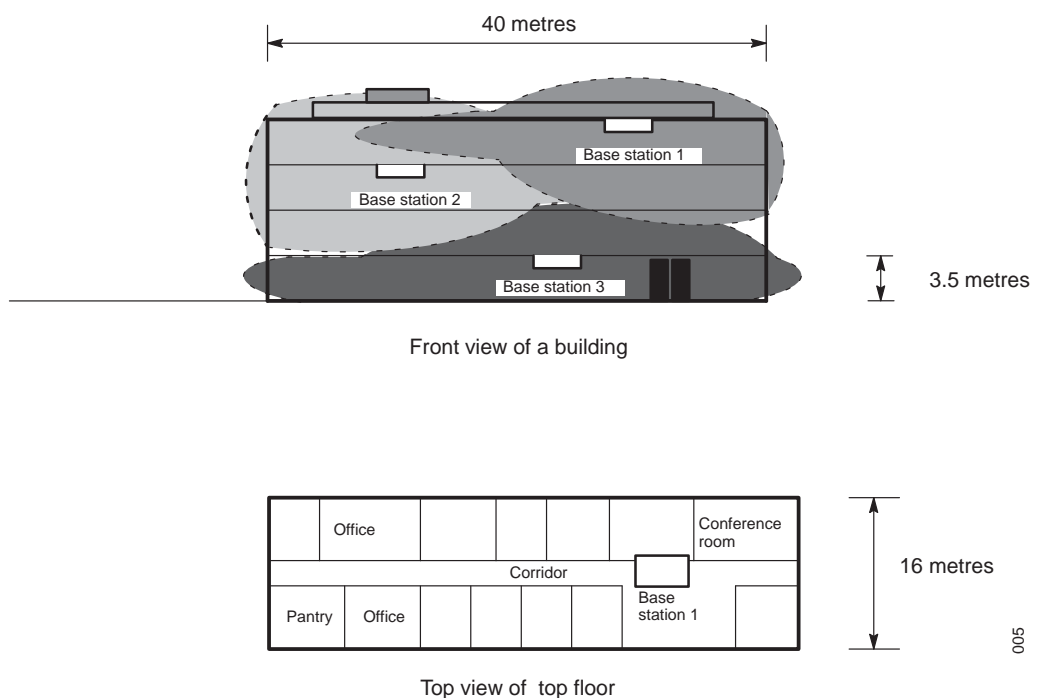

Figure 5. Example of the locations of base stations in a building.
- The in-house cell size in offices can have a radius of between 10 and 30 meters, see figure 5 on page 14. The cell size in exhibition or production halls can have a radius of up to 200 metres.
- Base stations may partially cover the floors immediately above and below. The useful range through floors and ceiling varies between 0 and 8 m (2 floors) radius; see figure 5 on page 14.